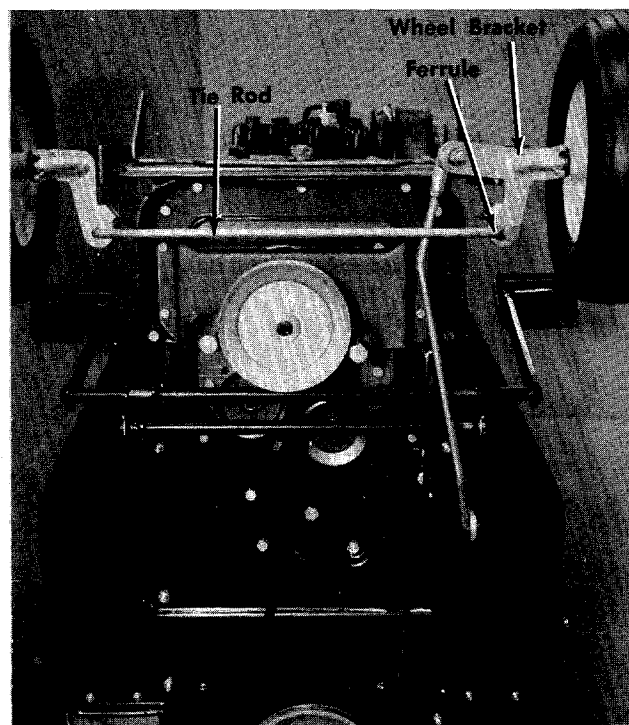

FIGURE 44.
the mower. The front wheels should toe-in 1/8 inch. See figure 44. To adjust, follow these steps:
1. Remove the cotter pin holding the ferrule to the axle bracket. See figure 44.